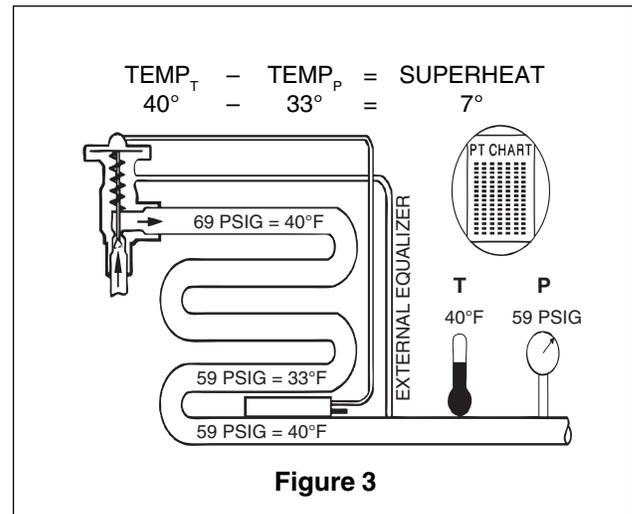

Figure 3
1. Determine the suction pressure with an accurate gauge at the evaporator outlet (see **P** in figure 3). On self-contained systems, the suction pressure may be read at the compressor suction connection.